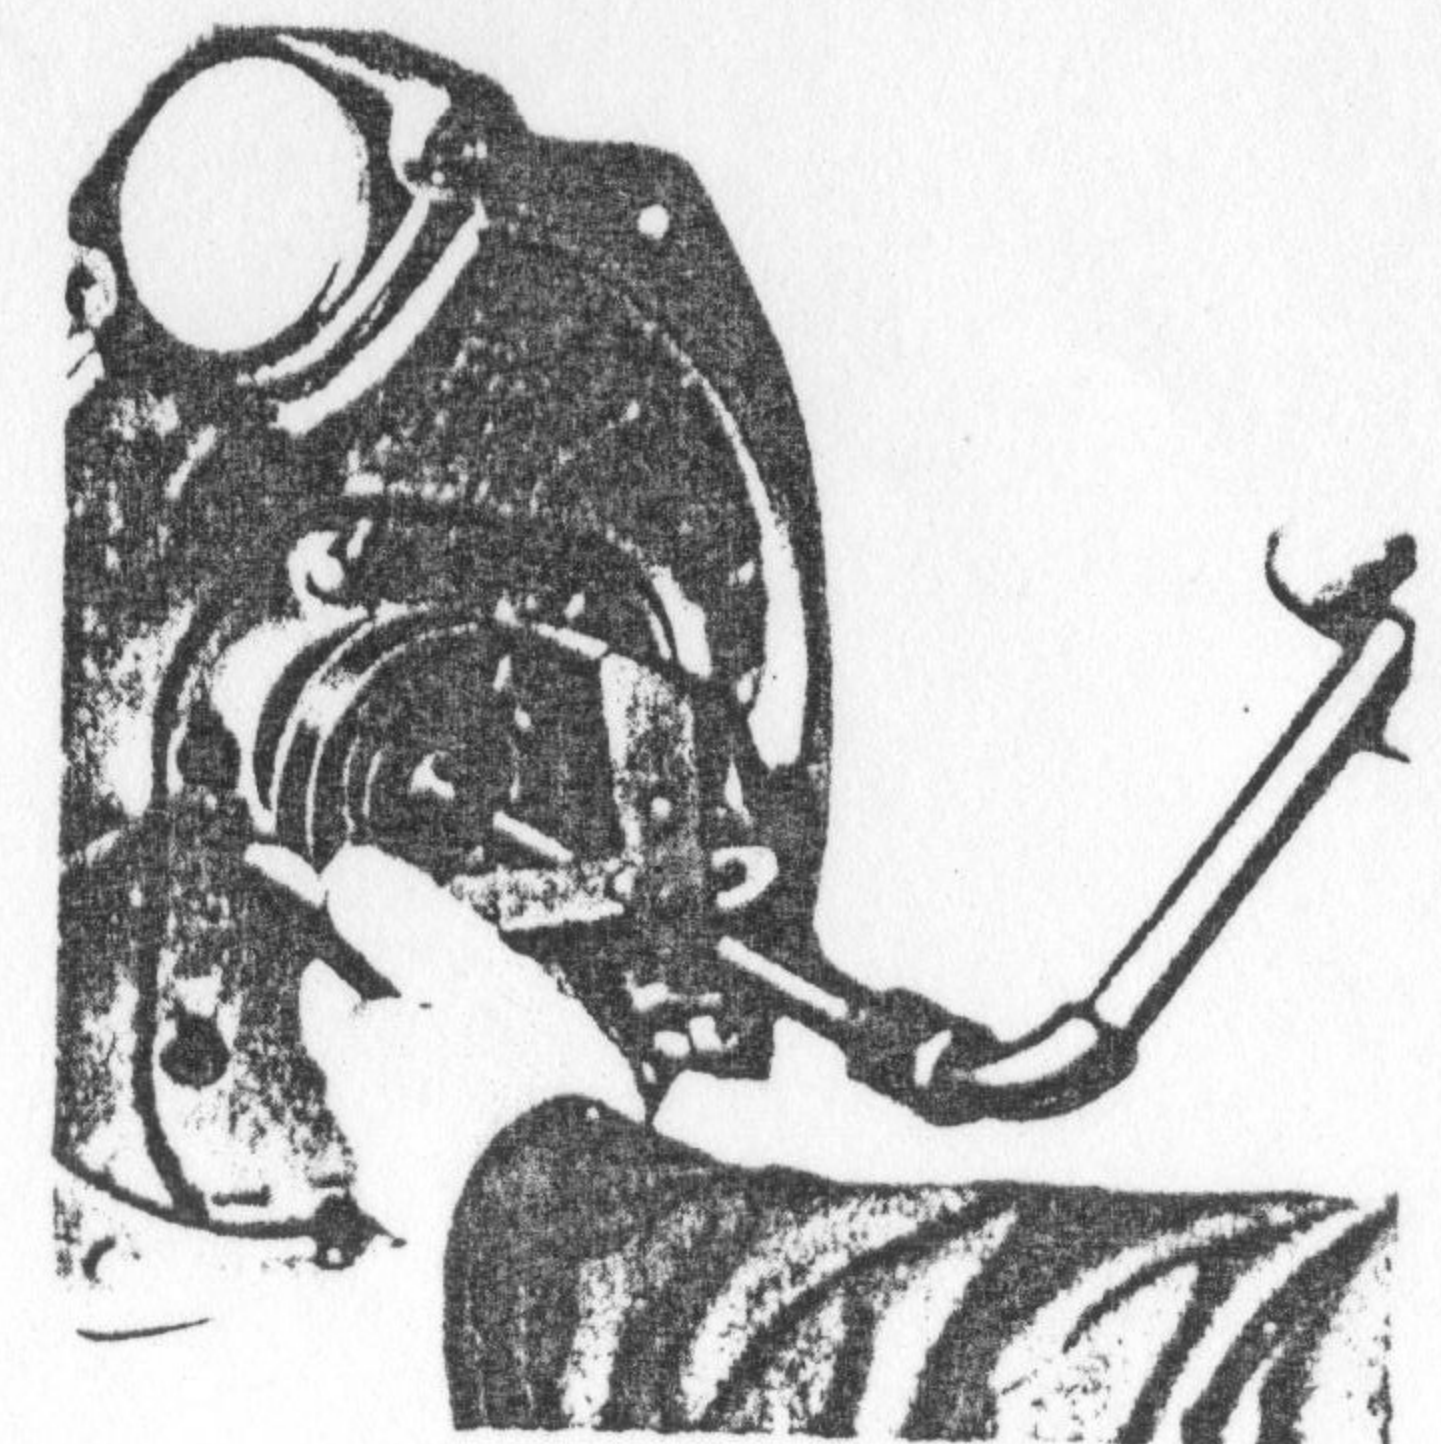

Fig. E5
- remove the roundel with an extractor taking rest on the primary shaft (Fig. E5).